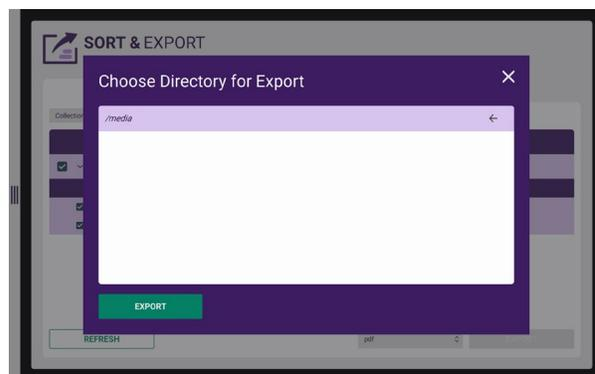

Figure 22. Select the directory for export.
- Once selected, the Atlas recognizes the presence of USB or ethernet connection and provides the option to select directory for export (**Fig. 22**).